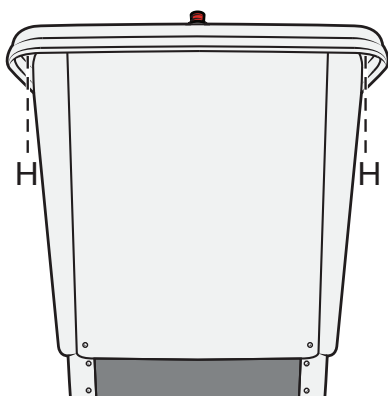

Figure 142
1. Loosen the two top screws to the service cover slightly and the screws (E) on each side holding the main cover that are closest to the foot end. See Figure 142